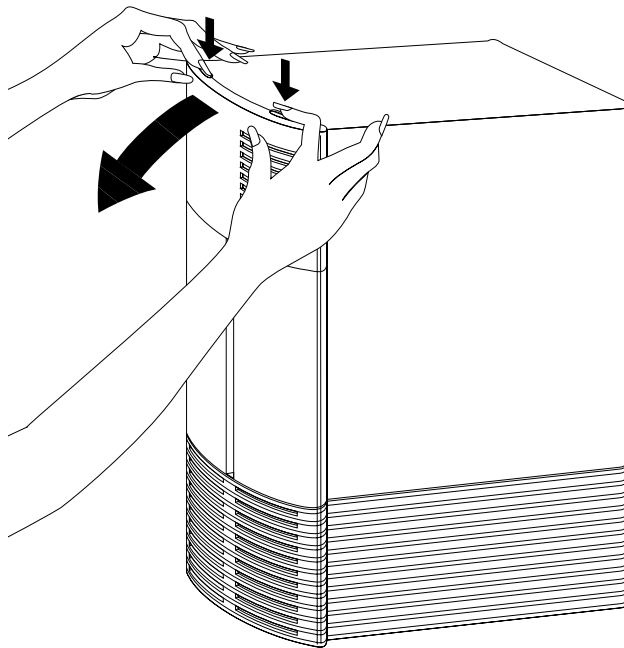

Figure 2-4 Removing the Front Cover of the IRIS Indigo Chassis
- Press down on the tabs and pull the cover away, as shown in Figure 2-4.